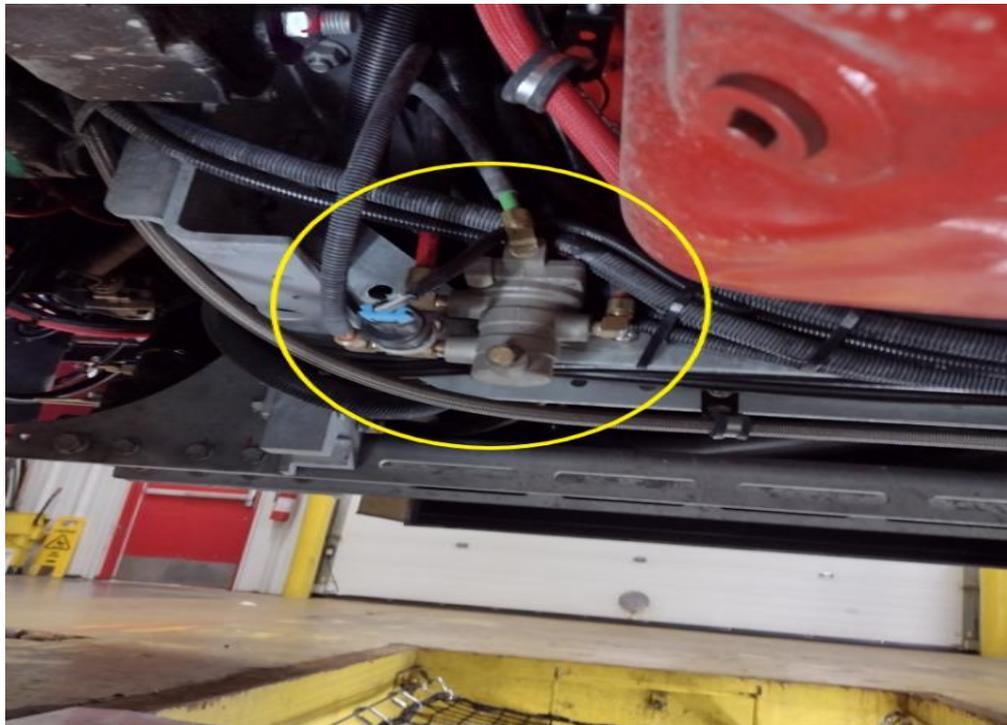

Figure 2.1
- 2) Locate inversion valve under truck mounted to the crossmember in front of the engine on the driver's side. (See Figure 2.1)